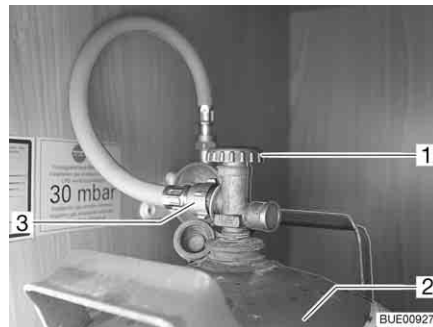

Fig. 162 Gas bottle compartment
- Close the regulator tap (Fig. 162,1) on the gas bottle (Fig. 162,2). Pay attention to the direction of the arrow.
- Unscrew the gas tube (Fig. 162,3) from the gas bottle.